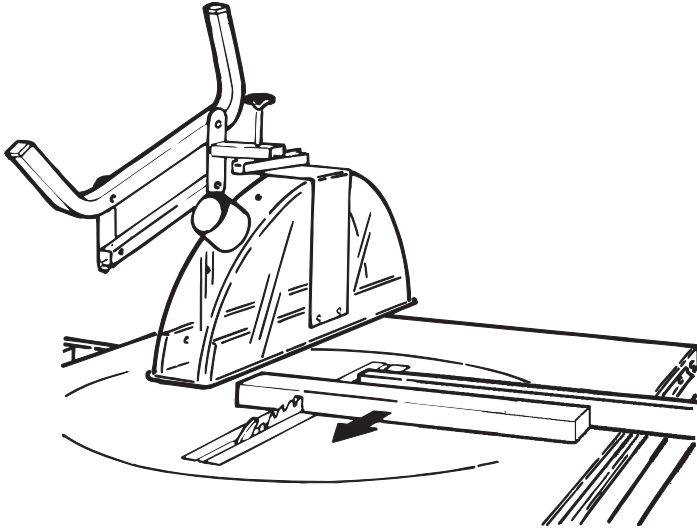

Fig. 23
- Adjust position of workpiece and repeat cut until rabbet has desired width Fig. 23.